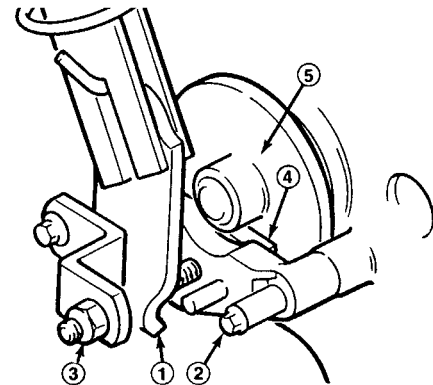

Figure 25
2. Measure distance between disc brake actuating arm and stop pin on axle bracket assembly (Fig. 25). Distance should be less than 1/4 inch (6 mm).
3. If distance is greater than 1/4 inch (6 mm), tighten locknut to decrease distance between actuating arm and stop pin (Fig. 25).
4. With the brake lever OFF, check clearance between brake pads and disc with a feeler gauge (Fig. 25). Proper clearance is approximately .010 inch (2.5 mm).
5. Check distance between clevis pin and bottom hooks of springs (Fig. 25). Distance should be 1/4 inch or less.